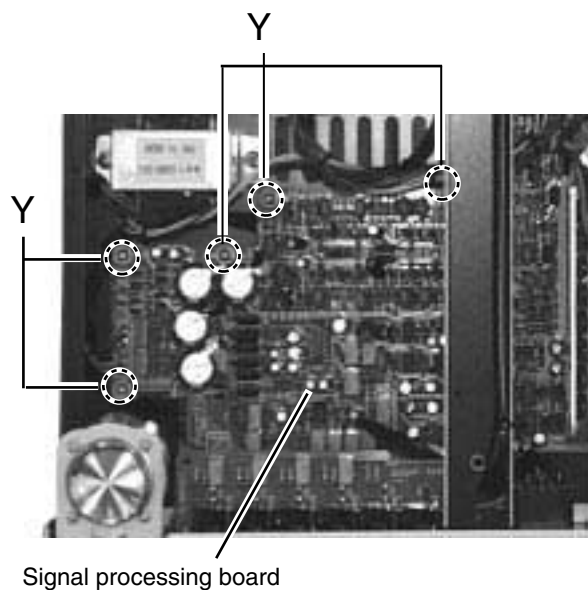

Fig.17
■ Removing the signal processing board assembly (See Fig. 17)